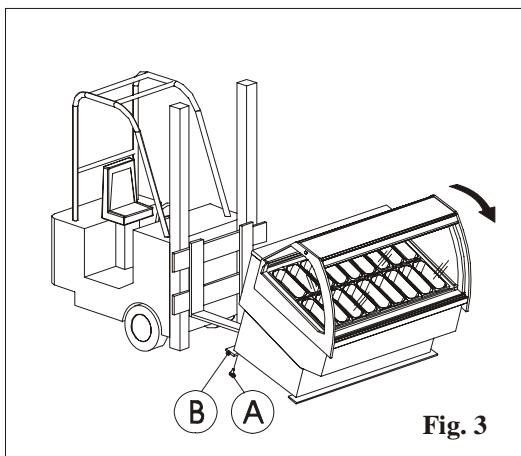

Fig. 3
- Lift the display cabinet using the pallet as shown in figure 3.
- Loosen the screws that fix the slats to the base (fig. 3 pos. A) and remove the base (fig. 3 pos. B).